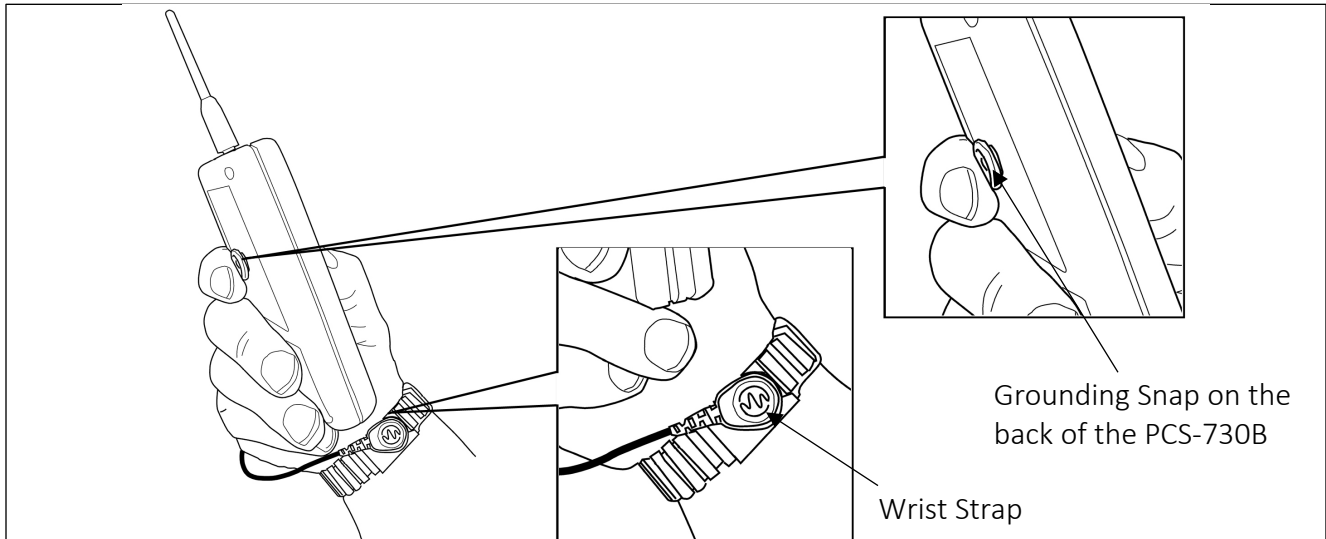

Figure 7. Operator properly grounded to use the PCS-730B
7. With the operator's fingers contacting the metal grounding snap on the back of the PCS-730B Charging Source (Figure 7), press the - button switch (-1kV). Touch the tip of the charging wand directly to the upper sensing plate of the CPM-720B Charge Plate Assembly and charge the CPM-720B to approximately - 1.25kV \pm 5%.